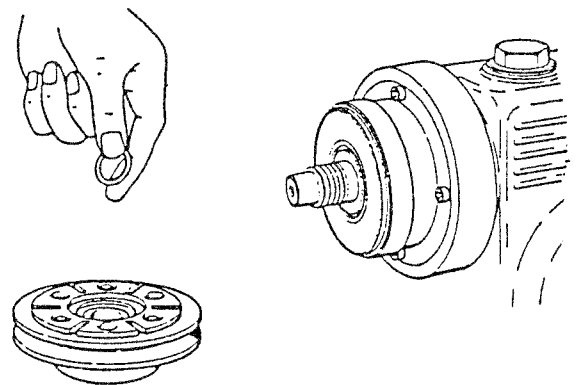

Fig. 7
- (4) A collar (24) and several shims (2 types of thin spacers of 0.1mm and 0.5mm thick) will be left. The number of these shims to be used for adjustment should be calculated through the following equation. (Fig. 7)